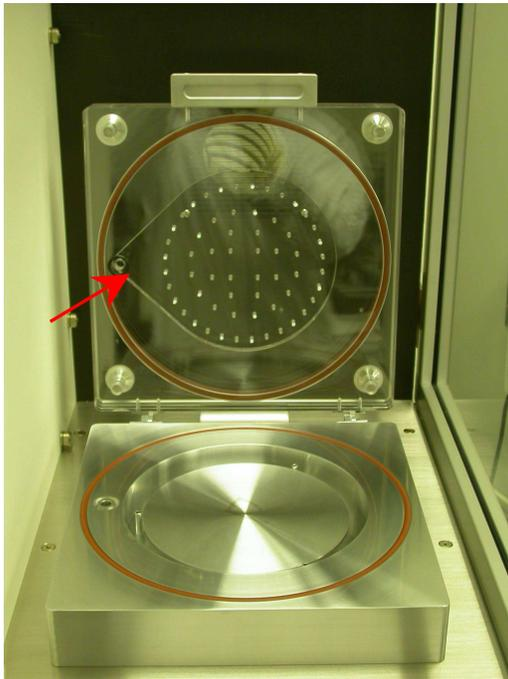

Figure 2.7
6. Check the black O-ring sealing, if it adheres on the lid, put it back to the metal rack and then close the lip. After that click the “**Done**” button. (Figures 2.7 and 2.8)